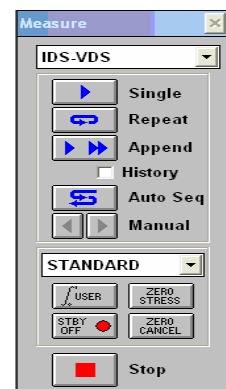

Figure 8: Measure window
3. The Measure window should look like Figure 8.